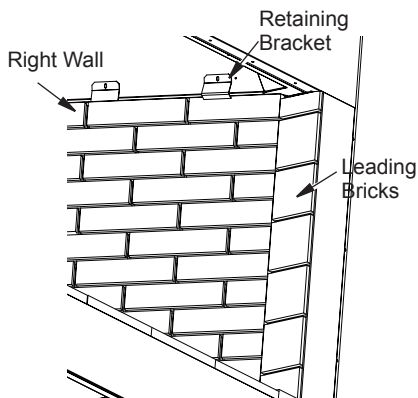

Figure 23 - Installing Side Walls
3. Secure the firebrick wall using 2 of the retainers provided. The bracket will slip underneath the metal lip on the top of the wall and screw into the inner dome of the fireplace (Figure 23).